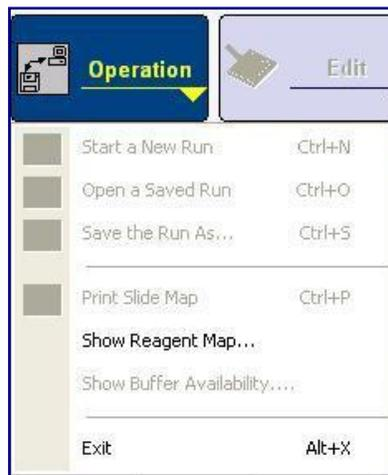

Figure 65: <Exit> option
2. Click on the **<Operation>** bar to display a dropdown menu. Select **<Exit>** (Figure 65) from the menu.